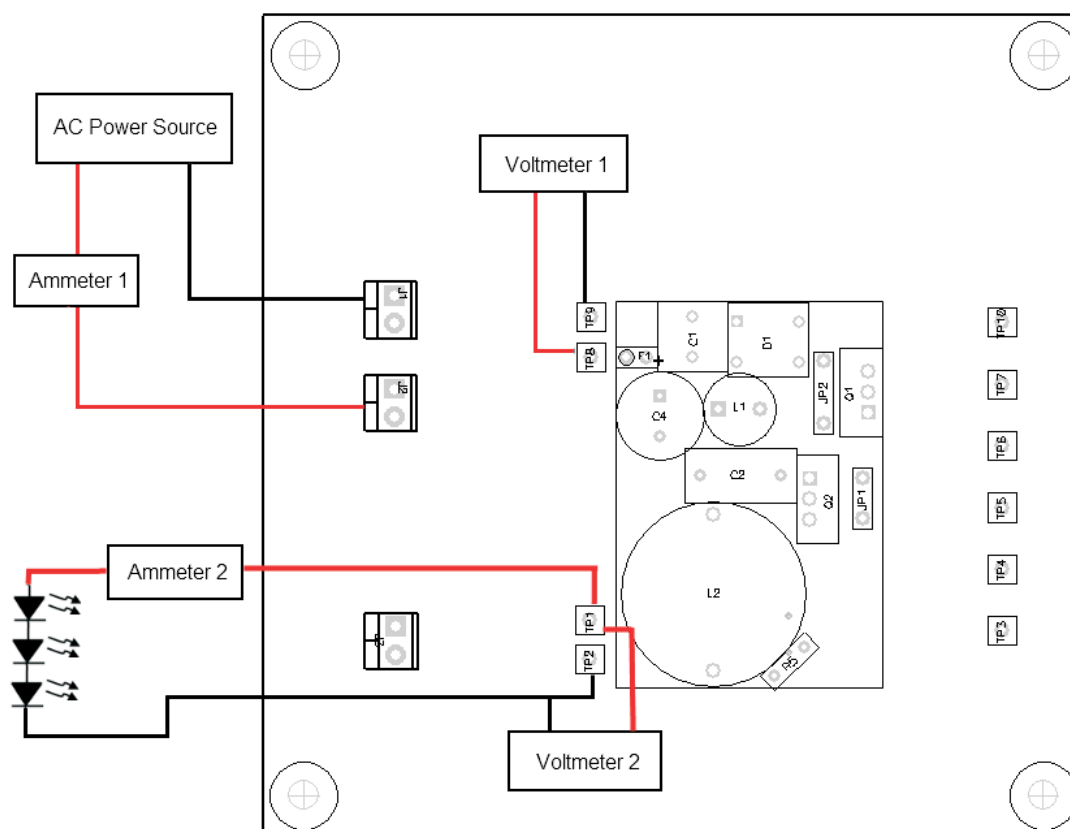

Figure 2. Recommended Test Set Up
1. Connect EVM per Figure 2 above. An external LED load must be used to start up the EVM.